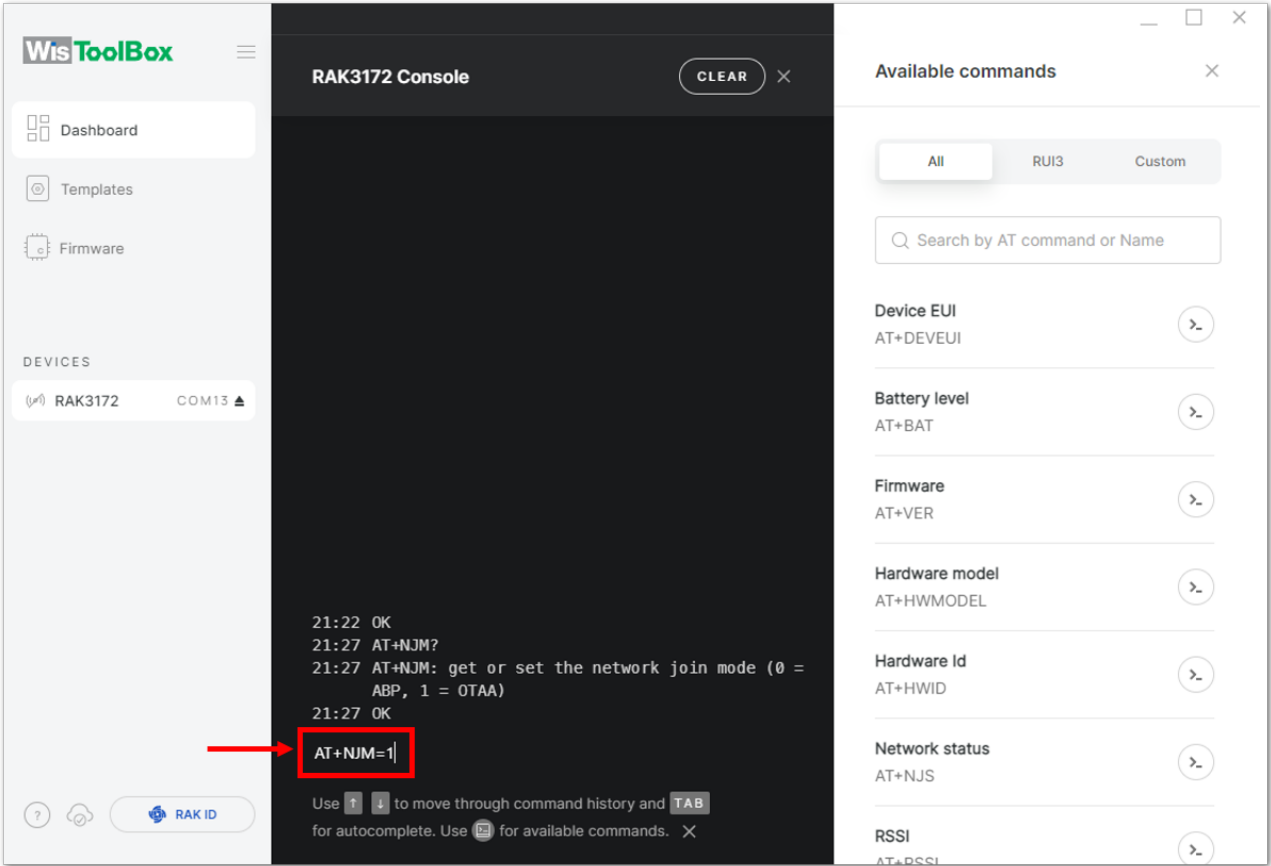

Figure 85: Setting up your Console
8. Then configure the LoRaWAN join mode to **OTAA**. You can check what parameter you will input by typing **AT+NJM?** then **Enter** into the console terminal. For **OTAA**, you should input **AT+NJM=1** then press **Enter** as shown in **Figure 85**.